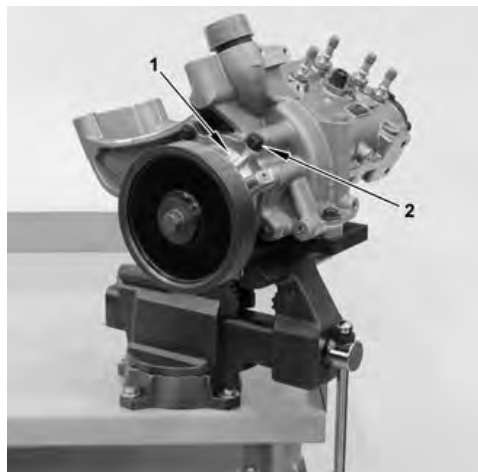

Figure 21. HP Fuel Pump Pulley Housing
6. Clean and apply Wacker® A-442 RTV sealant to joining faces of HP fuel pump pulley housing and HP fuel pump drive housing. Install HP fuel pump pulley housing to HP fuel pump drive housing. Install and torque four M10 x 40 bolts to 46 lb-ft (62 N·m) (Figure 21).